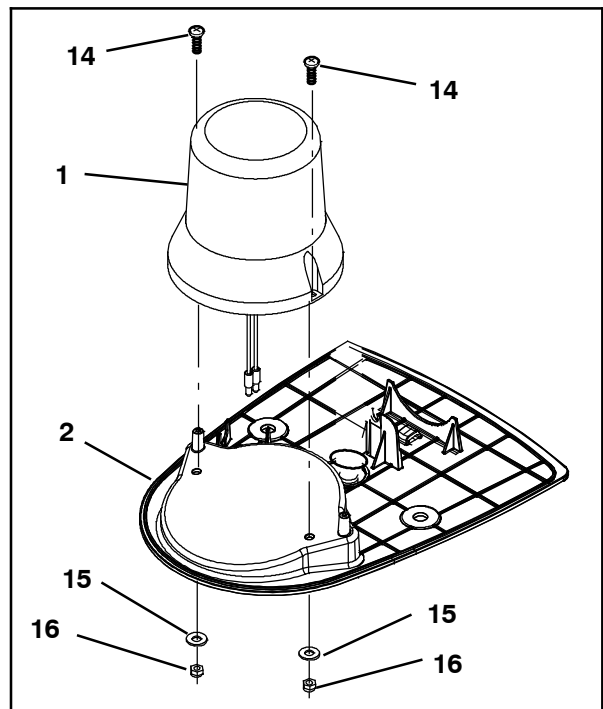

FIG. 4
6. Use two M5 pan screws (14), two flat washers (15), and two M5 hex nuts (16) to install the light (1) onto the light module base (2). (Fig. 4)